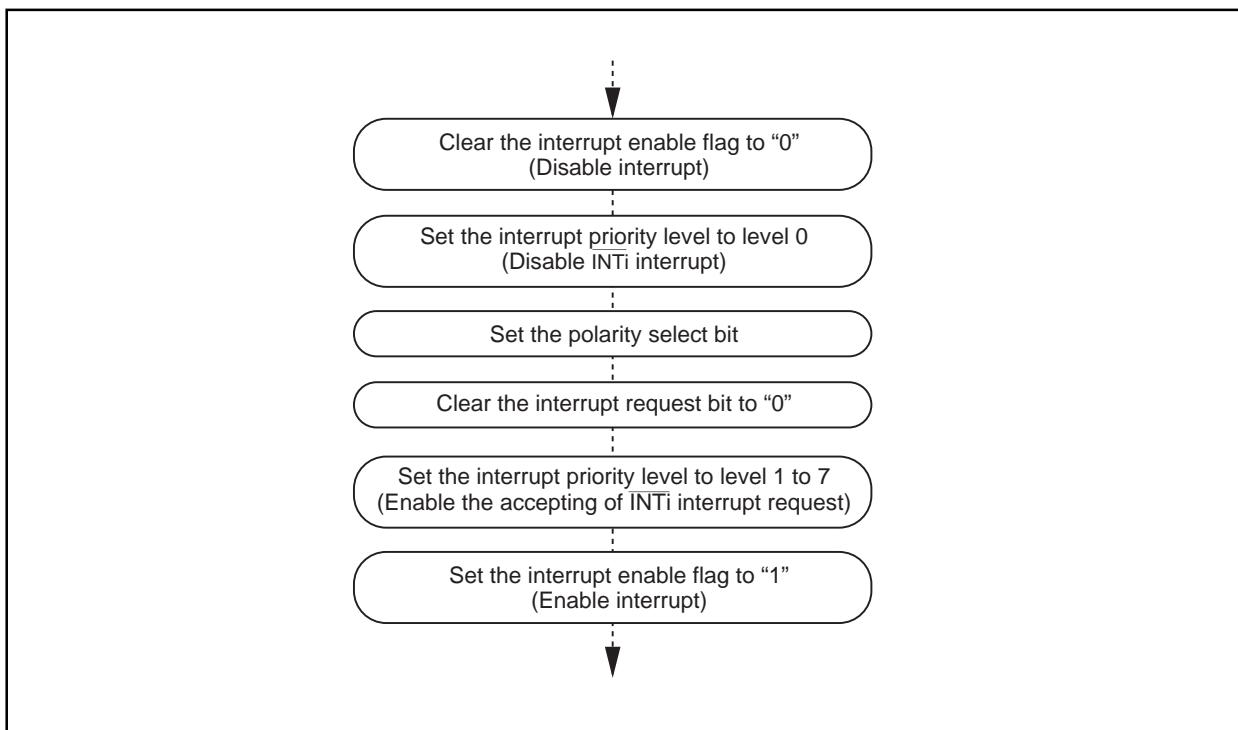

Figure 1.33. Switching condition of INT interrupt request
(2) Setting the stack pointer
(3) External interrupt
- When changing a polarity of pins INT0 and INT1, the interrupt request bit may become "1". Clear the interrupt request bit after changing the polarity. Figure 1.33 shows the switching condition of INT interrupt request.